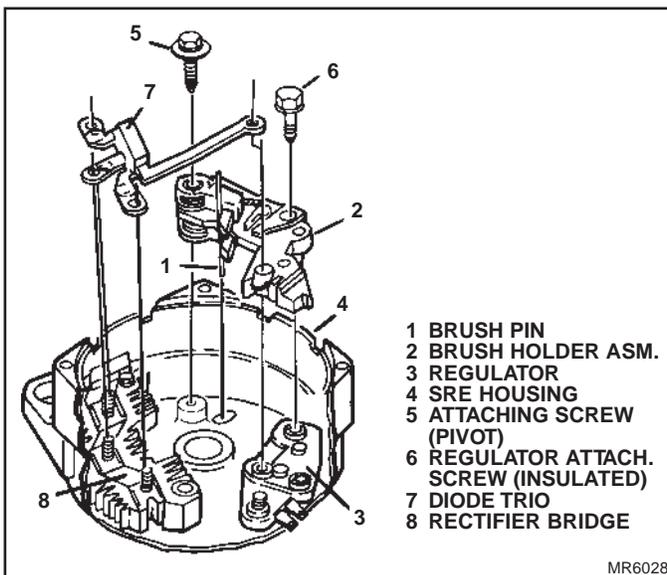

Figure 29. Installing Brush Holder and Diode Trio
- With brushes pinned in retracted position (Fig. 29), brush holder assembly to mounting holes in regulator and SRE housing. Install brush holder attaching (pivot) screw and one insulated regulator attaching screw (finger tighten both screws).
- Diode trio onto 3 threaded studs on rectifier bridge assembly (Fig. 29). Position long connector strap on diode trio over closest mounting hole in brush holder and regulator.